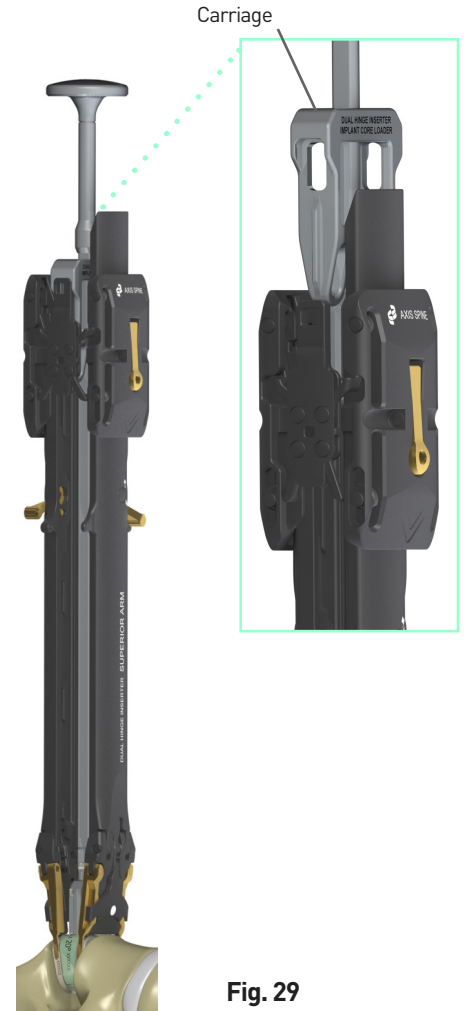

Fig. 29
- Insert the implant core loader behind the core (Fig. 29), such that the carriage engages into the connector.